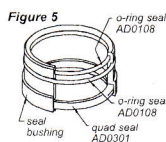

Figure 5
6. Remove seals shown in Figure 5 and 6 (be very careful not to scratch the seal grooves while removing the seals). Wipe all the surfaces using a clean lint-free cloth (Do not use solvent). Liberally apply Cane Creek De-friction Lube to the seal grooves and the new seals. Install the seals as shown in Figure 5 and 6. Note: The AD0303 seal is slightly harder than the AD0108.